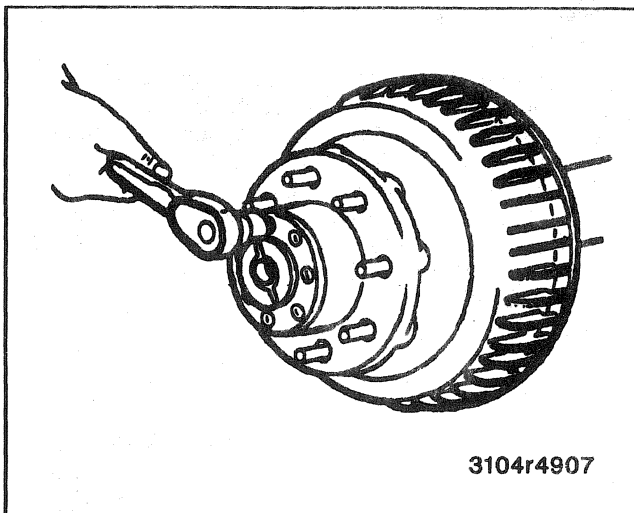

Figure 26—Removing or Installing Flange-to-Hub Bolts
Remove or Disconnect (Figures 26 and 27)
Install or Connect (Figures 26 and 27)
2. Axle cap and bolts (Figures 26 and 27).